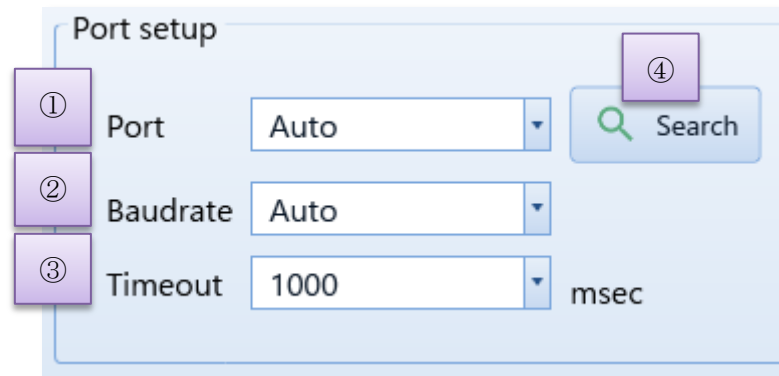

Figure 7.2 Communication setting
- (1) Open “Option” window and choose “Communication”. (Figure 7.2 / Table 7.2)